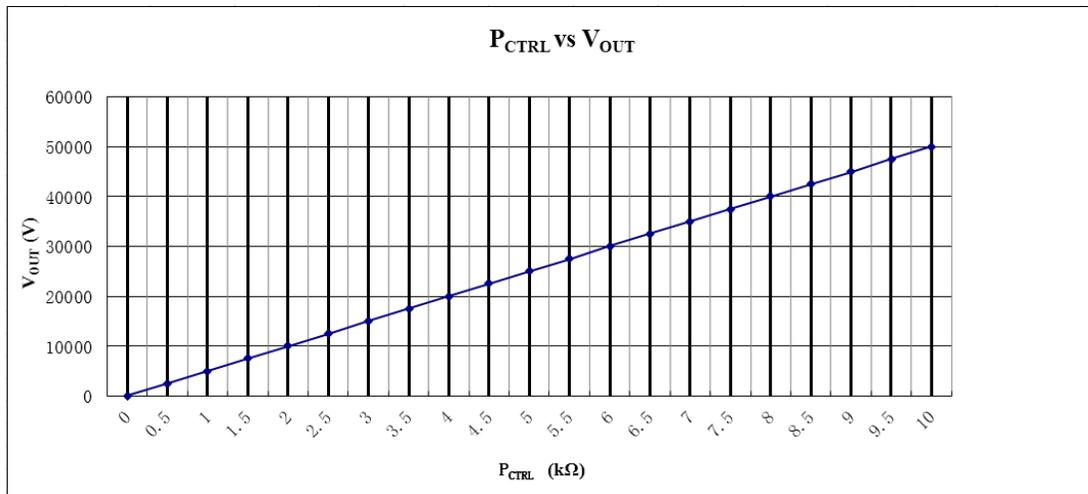

Figure 4. P_CTRL vs. V_OUT
5. HV adjustment: 10-turn potentiometer for adjusting output voltage. Rotate it clockwise to increase the output voltage, and the potentiometer resistance = the corresponding scale × 10Ω. For example, as Figure 4 shows, when the scale is 10, and the frame above the scale shows 1 (1kΩ), then the resistance = 10×10Ω+1kΩ=1.1kΩ, and the like.